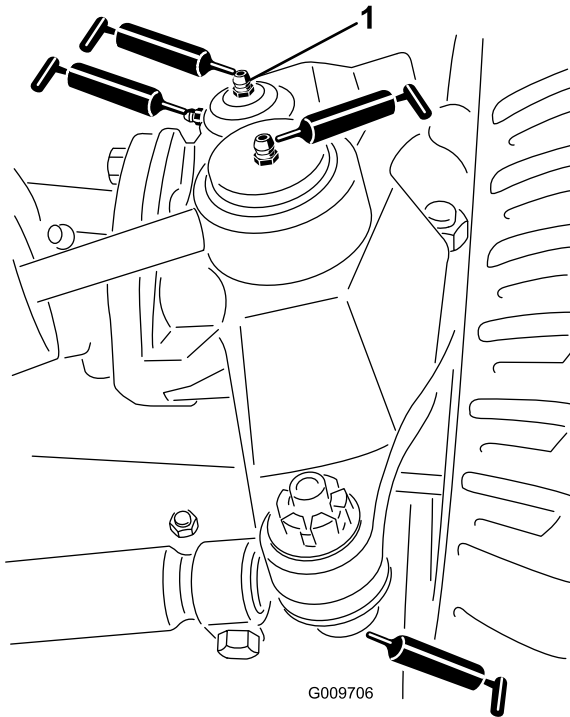

Figure 23
- Steering cylinder ball joints (2) (Figure 23)
- Tie rod ball joints (2) (Figure 23)
- King pin bushings (2) (Figure 23). **The top fitting on the king pin should only be lubricated annually (2 pumps).**